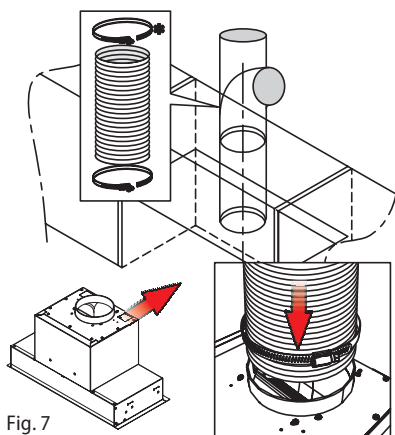
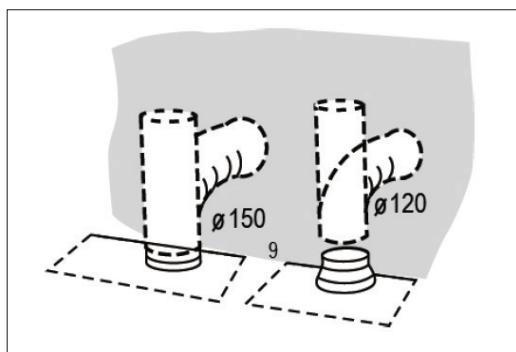

Fig. 7
Fig. 8
4. After the hood has been hung, install the flexible outlet duct to the outlet opening (Fig. 7). Use a reducer fitting 150/120 mm in diameter, if required. Insert the second part of the flexible duct in the opening prepared in the wall (Fig. 8).